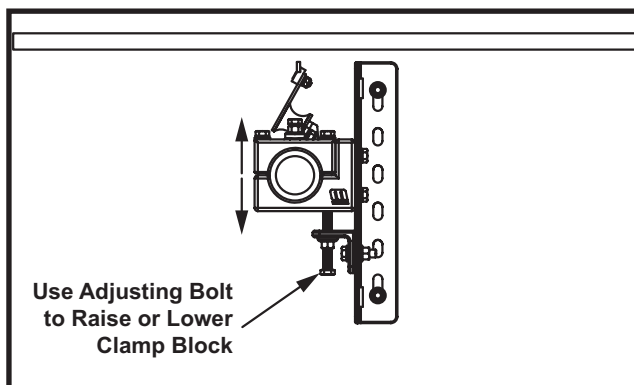

Figure 16. Martin® P2 Secondary Belt Cleaner HD Bolt Tensioner Adjusting Bolt
12. Pull back on the outside tip until the tip to belt contact is broken and release. If the cleaner is correctly tensioned the complete blade of the adjacent tip will be visible. If not, add (or reduce) tension by making 1/2 turn adjustments on the adjuster bolt until the adjacent tip is visible. (Refer to Figure 16 & 17.)